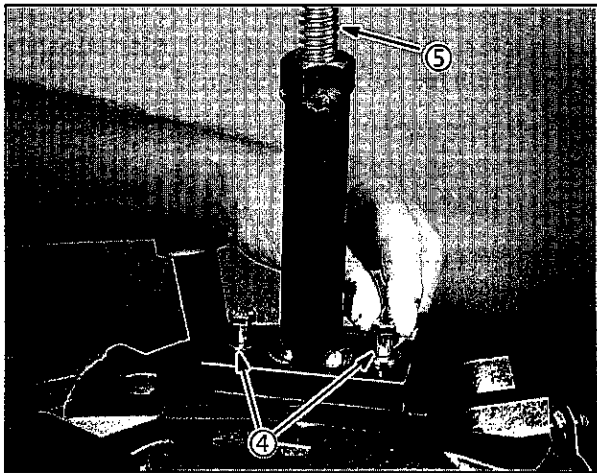

Fig. 19
5. Place the flywheel puller over the pilot. Back out the puller screw (5) until the flange on the puller is flush with the flange on the flywheel, Fig. 19.
6. Align the holes in the puller flange with the holes in the flywheel. Install the puller screws (4) and tighten until the screws are flush with the flange on the puller.